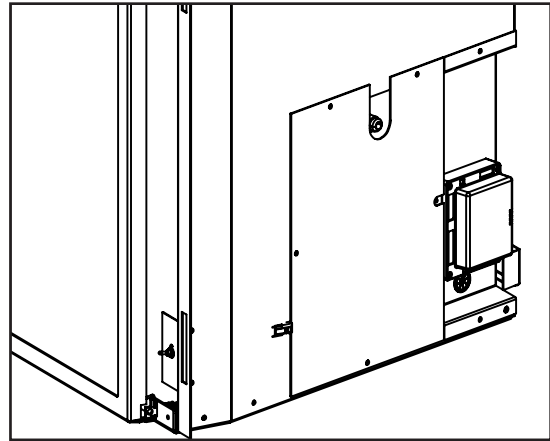

Figure 34: Gas Connection Location.
- A 3/8" 45° flared fitting and flex connector are supplied with the unit (see Figures 34 and 35). Consult the local authorities for local codes or use the CAN/CGA B149 (1 or 2) installation code in Canada. In the US, gas installations follow either local codes or the current edition of the National Fuel Gas Code ANSI Z223.1.